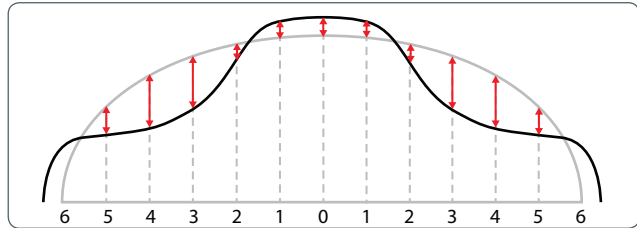
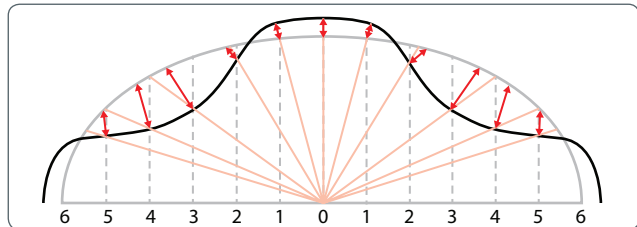

Figure 5 – SAG Fitting
Figure 6 – Radial Fitting
- SAG and Radial analysis options** – The SAG fitting (Figure 5) uses a Cartesian coordinate system and the radial analysis (Figure 6) uses a polar coordinate system. TalyMap will then analyse the data using the chosen analysis method.